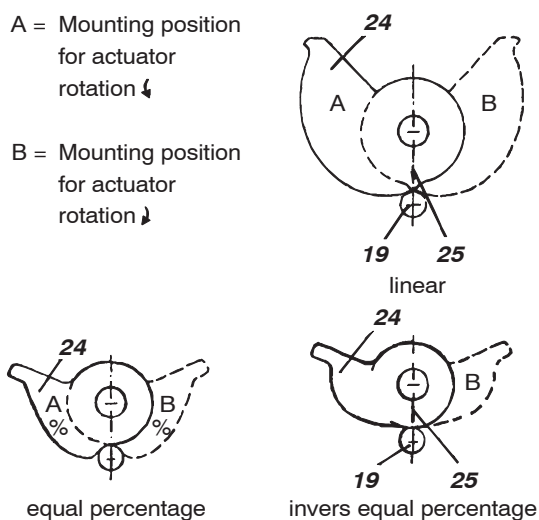
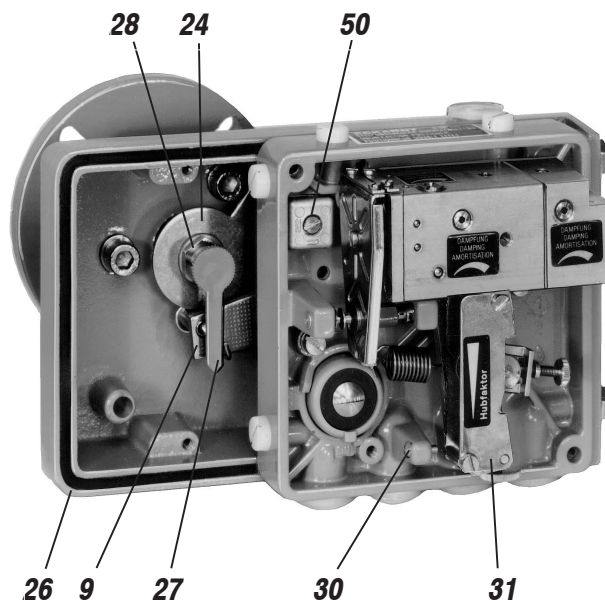

Fig. 20: Mounting position of the cams
Fig. 25: Attachment kit for rotary movement and positioner
- Mount the cam **24** in accordance with the direction of rotation of the actuator (see Fig. 20).
Screw the positioner to the housing of the attachment kit (see Fig. 25). With the linear cam and the inverse equal percentage cam check whether the mark **25** points to the centre of the cam follower **19** (see Fig. 20); adjust if necessary.